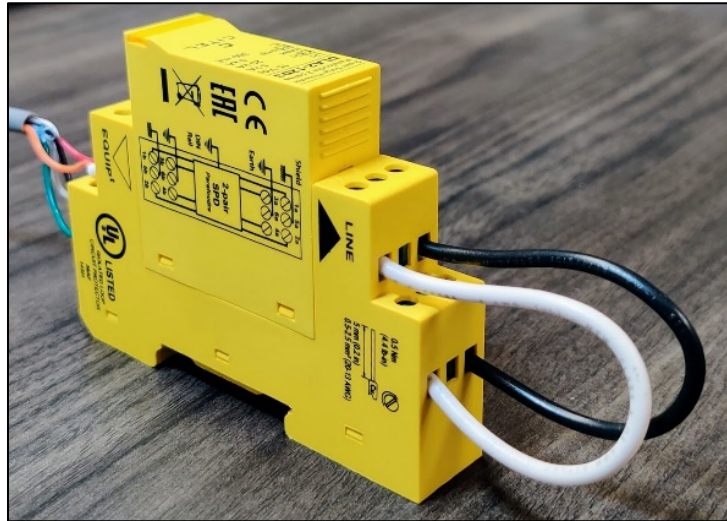

Figure 8 Loopback Wiring on the RS422 SPD
- The RS232 SPD features a red replacement popper on top (Figure 8). If either version fails, only the module needs to be replaced. Order a replacement using the chart in the Parts Listing Section. Pull the failed module up and swap in the new module to replace (Figure 9).